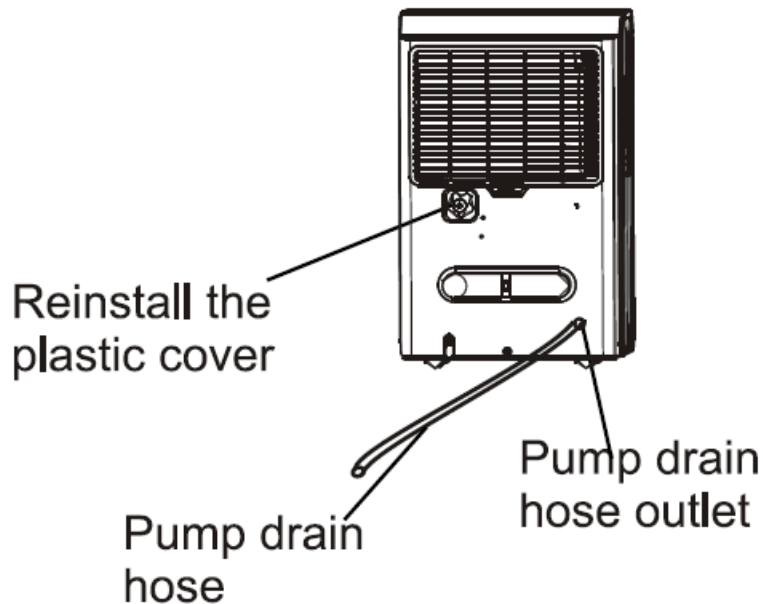

Fig.11
- Remove the continuous drain hose from the unit and install the plastic cover to the continuous drain hose outlet of the unit by clockwise rotation. (See Fig.11)
- Resert the pump drain hose into the pump drain hose outlet for a depth of 15mm at least (See Fig.11), then lead the water hose to the floor drain or a suitable drainage facility.